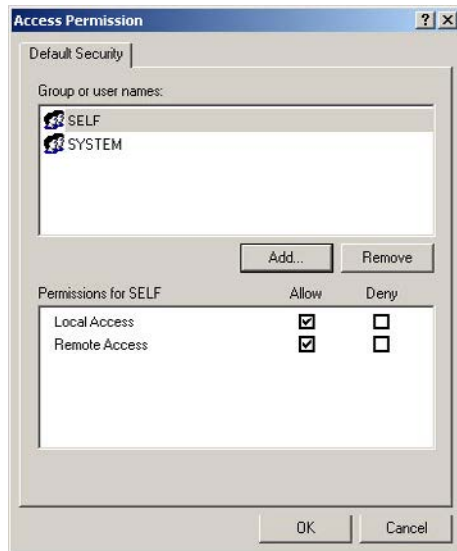

Figure A-17. Access Permission
6. Click “Apply” after making changes as shown in Figure A-17.